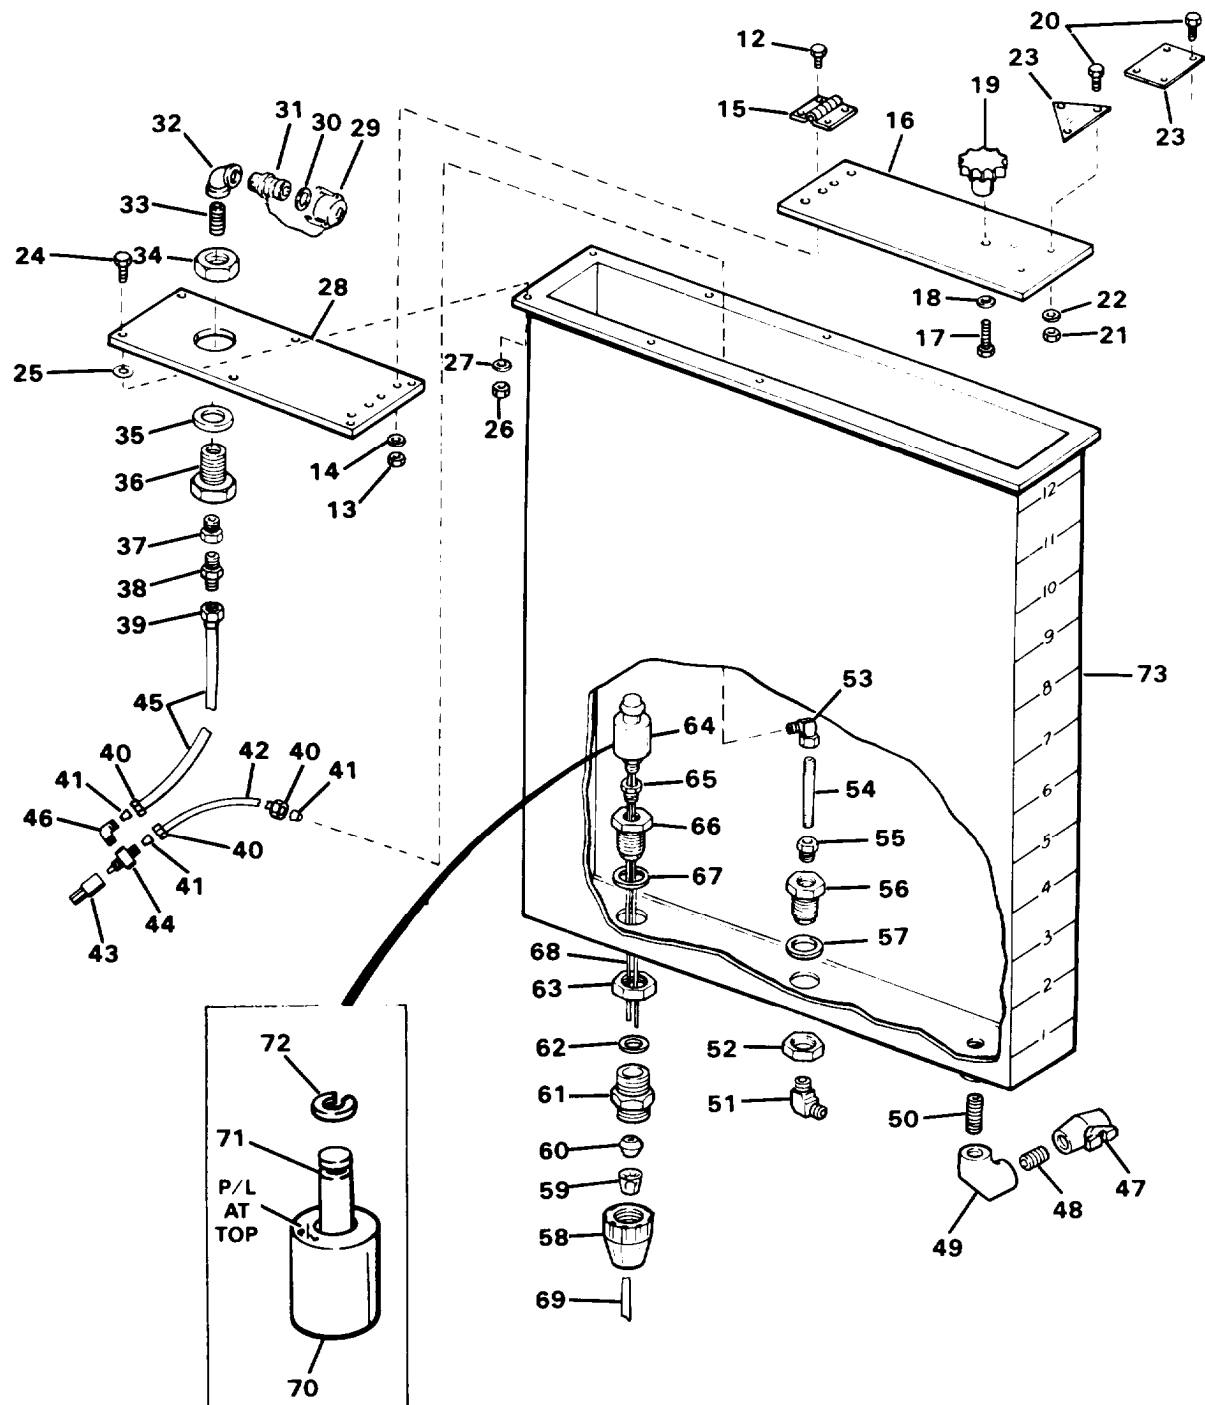

Figure 4-64. Polyelectrolyte and Sequestrant Tank Assemblies (sheet 2 of 2)
- m. Install the appropriate nameplate (23) (polyelectrolyte or sequestrant).
- n. Install knob(19) and secure with capscrew (17) and washer (18).
- o. Place cover(16) on tank (73) and secure two hinges(15) to covers (16 and 28) using eight screws, nuts (13) and washers (14).
- a. Refer to Figure 4-64, sheet 1 and place the subassembled tank on the mounting bracket.
- b. Install bracket (11) and secure with capscrew (6), flat washer (7), nut (8), lockwasher (9) and flatwasher (10).
- d. Install new tie wraps (5) (para, 4-10).